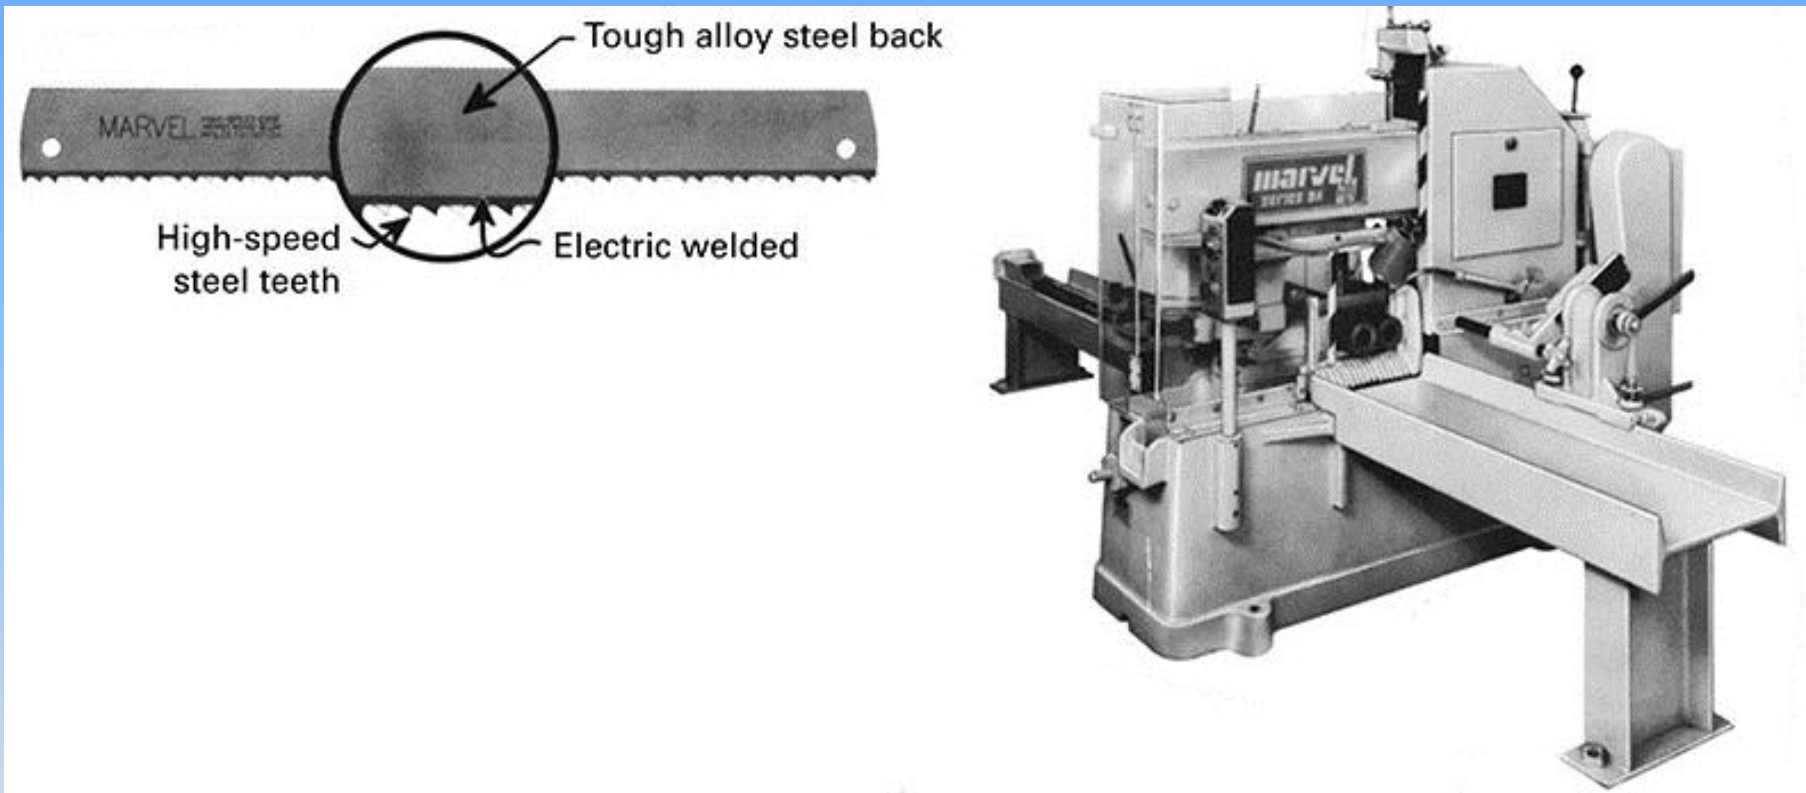

FIGURE 27-15 Power hacksaw blade (above) and hacksaw with automatic bar feeding (right) cutting two pieces of round stock.
- **b. Power hacksaw (Figure 27-15)**